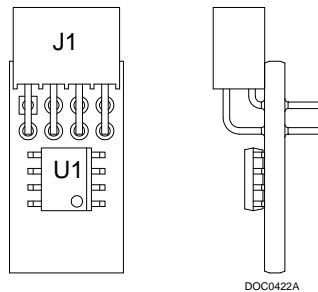

Figure 2. License Key
5. Place the license key in the appropriate terminal slot (**P4** or **P6**) in the CPU (refer to Figure 2).
6. Press the license key into the terminal until it is firmly seated (refer to Figure 2).